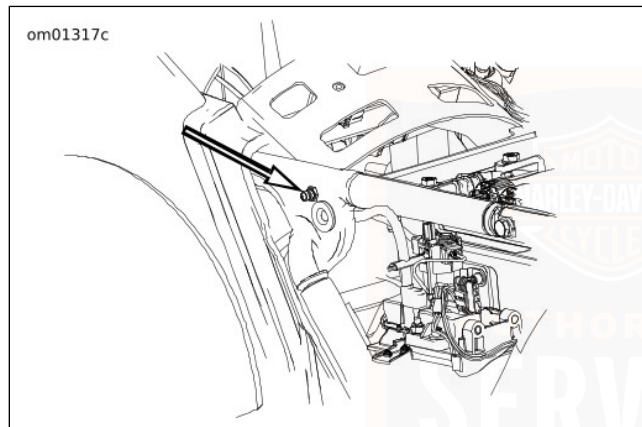

Figure 24. Rear Air Suspension Air Valve
2. See Figure 24. Remove the cap from the air valve located behind the shock absorber.